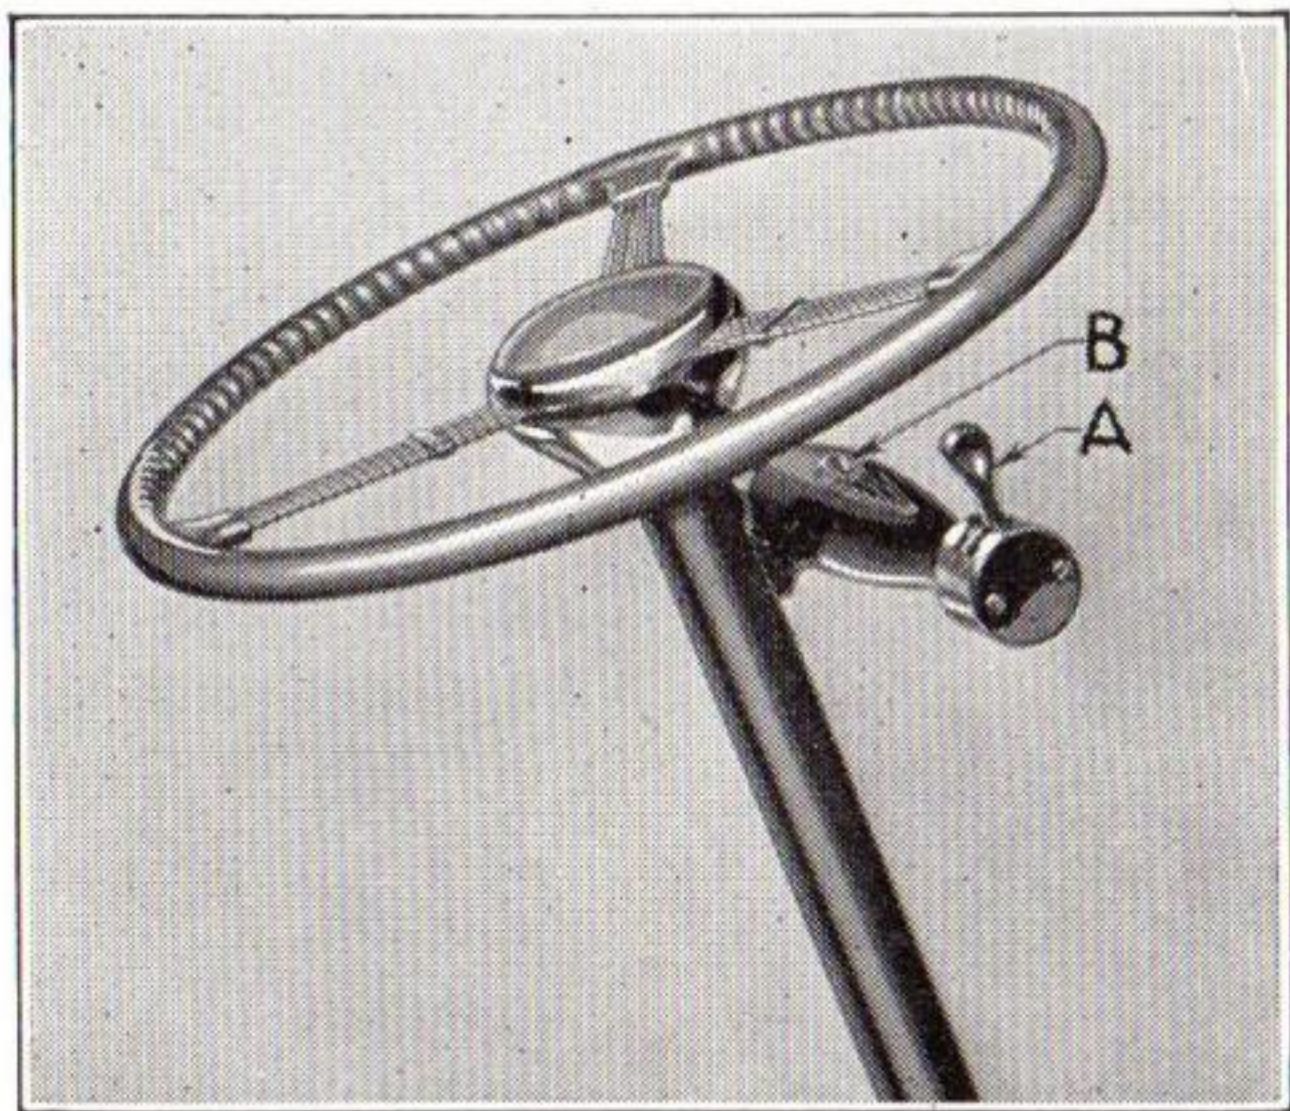

Figure 2
The operation of the Electric Hand is controlled by a small lever attached to a mounting on the steering column, just below the steering wheel. The gear is selected merely by moving the small lever (A), Figure 2, with a finger of the right hand. Then, by depressing the clutch pedal fully to the floor board, the actual shifting of gears is accomplished.
A small "off and on" switch (B), Figure 2, is provided on the selector switch to prevent tampering with the shifting mechanism, and is also used to make the "Electric Hand" inoperative when the car is being serviced.